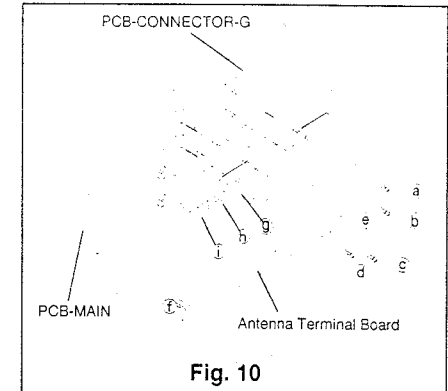

Fig. 10
- (2) Remove four screws (Ⓐ, Ⓑ, Ⓒ and Ⓓ), unfasten five catches (Ⓔ ~ Ⓕ) on the Antenna Terminal Board as shown in Fig. 10, and remove the Antenna Terminal Board.
- (3) Raise the PCB-CONNECTOR-G upward to remove it.